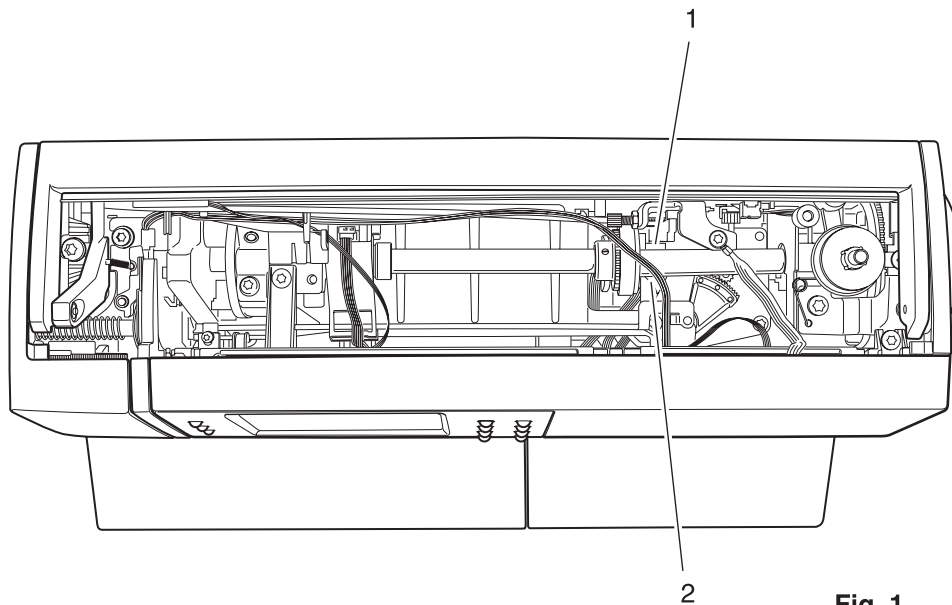

Fig. 1
- Slightly raise both lugs 1 and remove the facing panel of the front housing panel by swiveling it downwards (fig. 1).
- Loosen screw 1 (fig. 1).